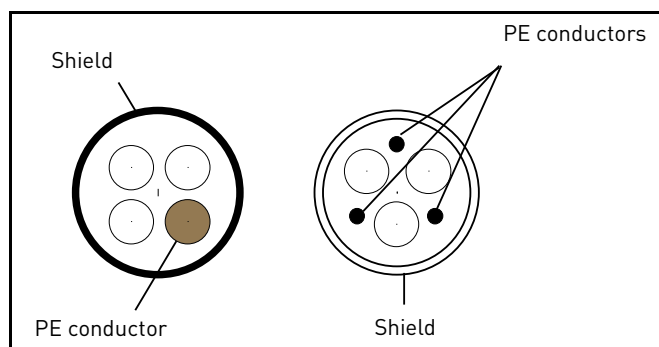

Figure 17.
- 2 = Symmetrical power cable equipped with concentric protection wire and intended for the specific mains voltage. (MCMK or similar recommended). See Figure 17.
- 3 = Symmetrical power cable equipped with compact low-impedance shield and intended for the specific mains voltage. [MCCMK, EMCMK or similar recommended; Recommended cable transfer impedance (1...30MHz) max. 100mohm/m]. See Figure 17.